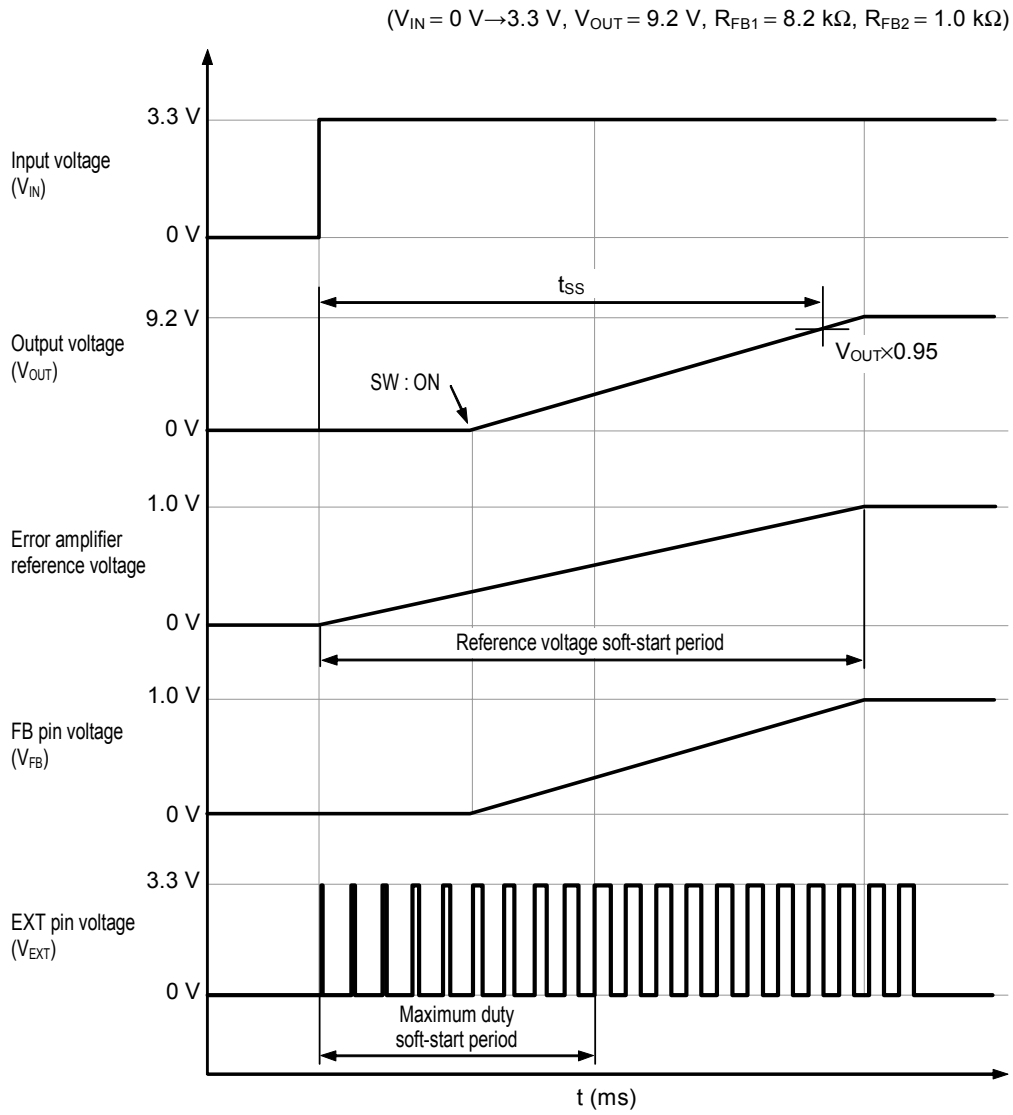

Figure 8
In the circuit where the input voltage is not directly output at shutdown by inserting a switch (SW) between the diode (SD) and VOUT output, the VOUT voltage when the VIN voltage is applied with the SW OFF stays 0 V. Therefore, the voltage of the FB pin stays 0 V and the EXT output is in the step up status between the “H” and “L” levels due to the maximum duty. The maximum duty at this time is approximately 7% and the rush current at power application is controlled. The maximum duty soft start is accomplished by gradually increasing the duty width up to the maximum duty set by the external resistor RDuty (refer to **Figure 8**).